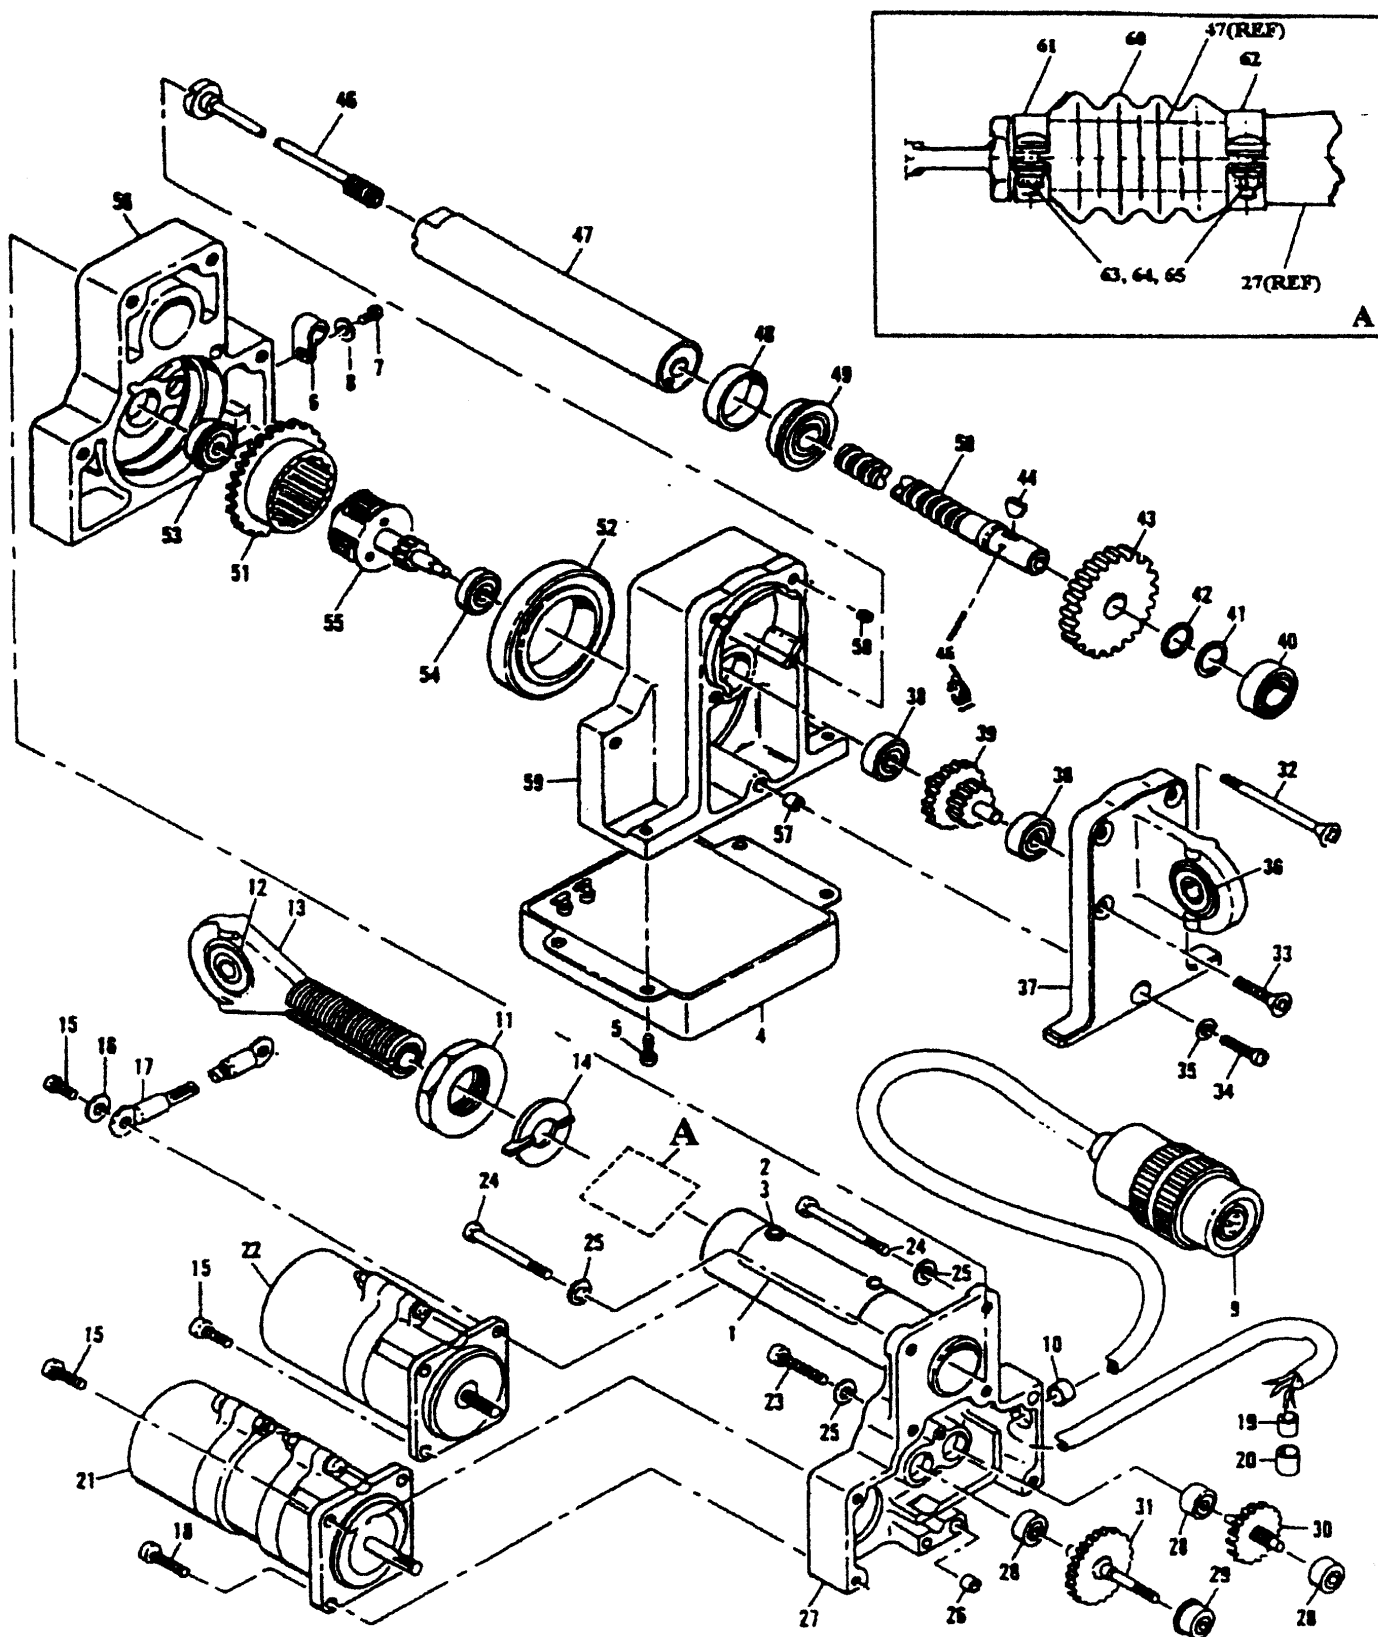

Figure 2-1. Linear Electromechanical Actuator
3-3. ALTERNATING CURRENT MOTOR, PART NO. 516027-1-2 (21, figure 2-1).
3-4. ALTERNATING CURRENT MOTOR, PART NO. 516026-3-1 (22, figure 2-1). Use test data sheet, Table VII for recording test information.
Extended and retracted lengths may be adjusted by loosening nut (11, figure 2-1) and turning fitting (13) with bearing (12) in or out to meet dimensional requirements. Tighten nut (11) after final adjustments are made.